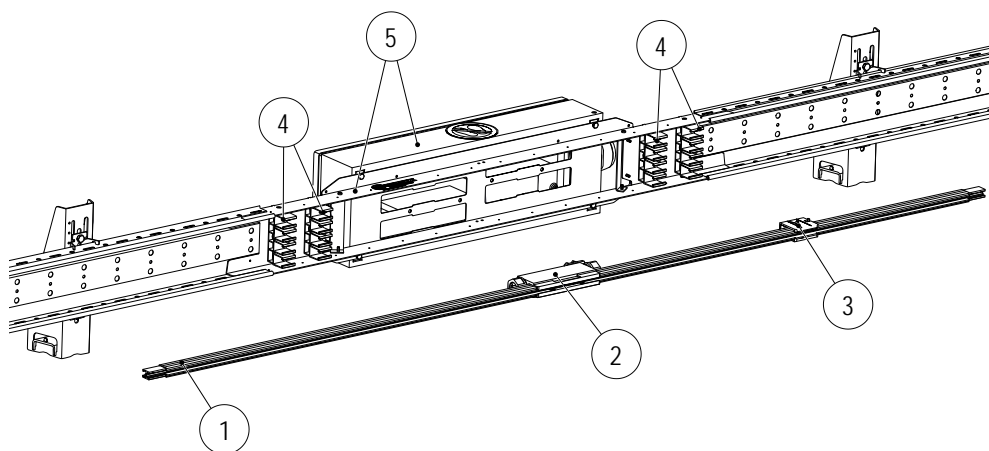
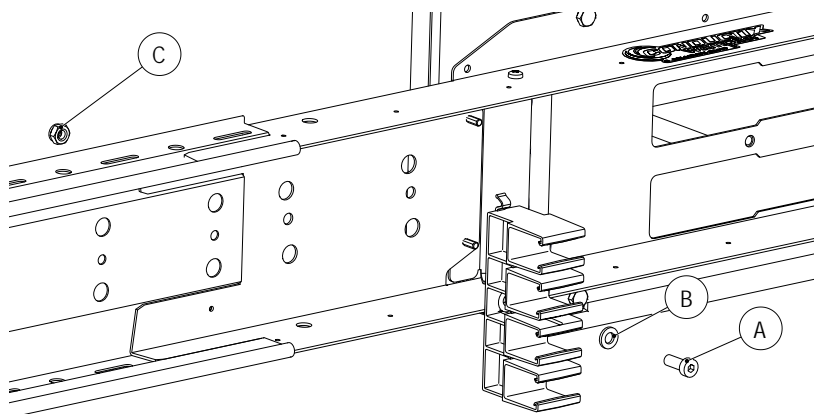
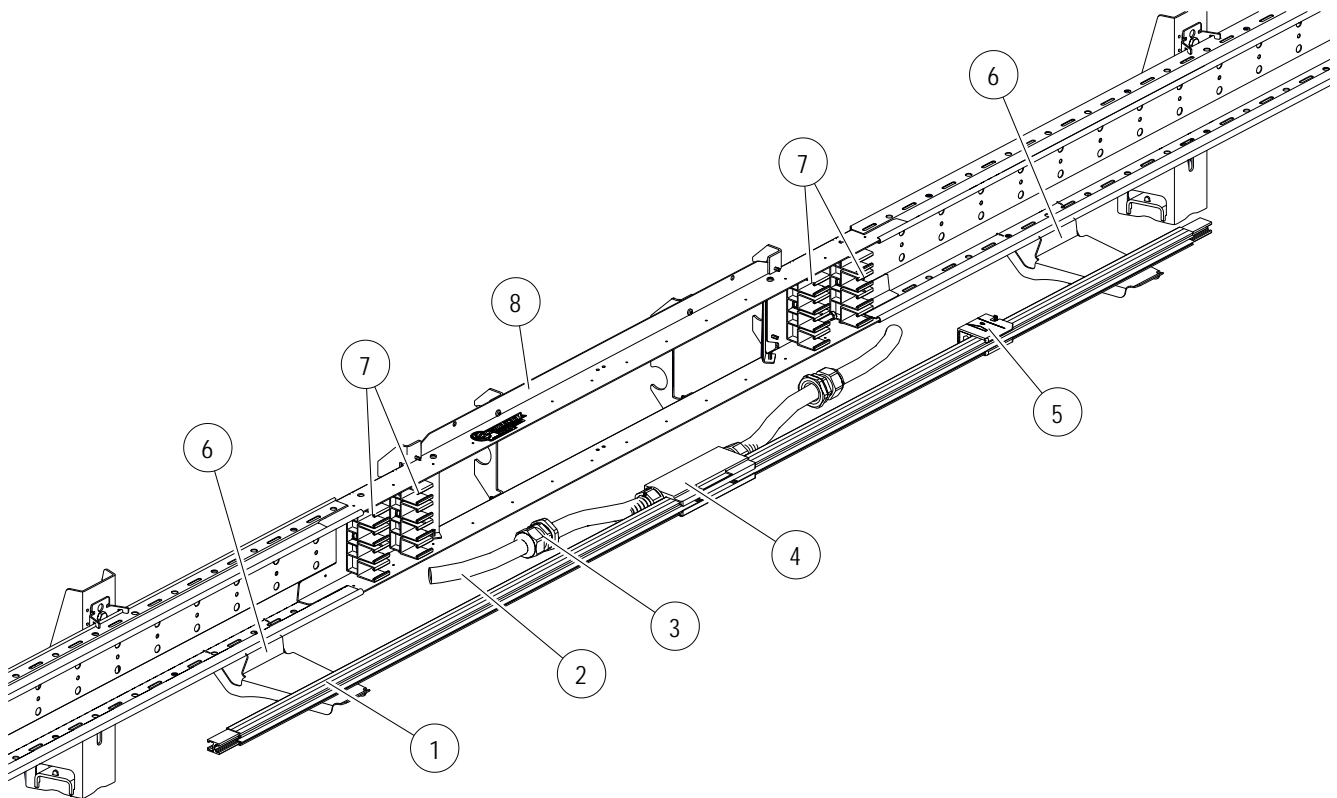

Fig. 30: Line feed option with terminal box
Fig. 31: Screw hanger clamp onto fastening frame
Fig. 45: Line feed option with connecting cables
The hanger clamps (4) for the preassembled anchor points (3) on the conductor rail with line feed (1) must be installed on the ProShell support profile on the installation site using the cylinder screw M6x16 (A), washer (B) and hexagon nut M6 (C) (see Fig. 31 and Fig. 30)!
The hanger clamps (7) for the preassembled anchor points (5) on the conductor rail with line feed (1) must be installed on the ProShell support profile at the installation site using the cylinder screw M6x16 (A), washer (B) and hexagon nut M6 (C) (see Fig. 31 and Fig. 45)!
2. Place the conductor rail with the installed line feed and anchor point (1) on the auxiliary consoles (6) in order to be able to connect the conductor rail (1) to the additional conductor rails on the right and left (see Fig. 45). For better handling when connecting, auxiliary consoles should also be hooked onto the ProShell support profile for the additional conductor rails (also see BAL0812-0001).